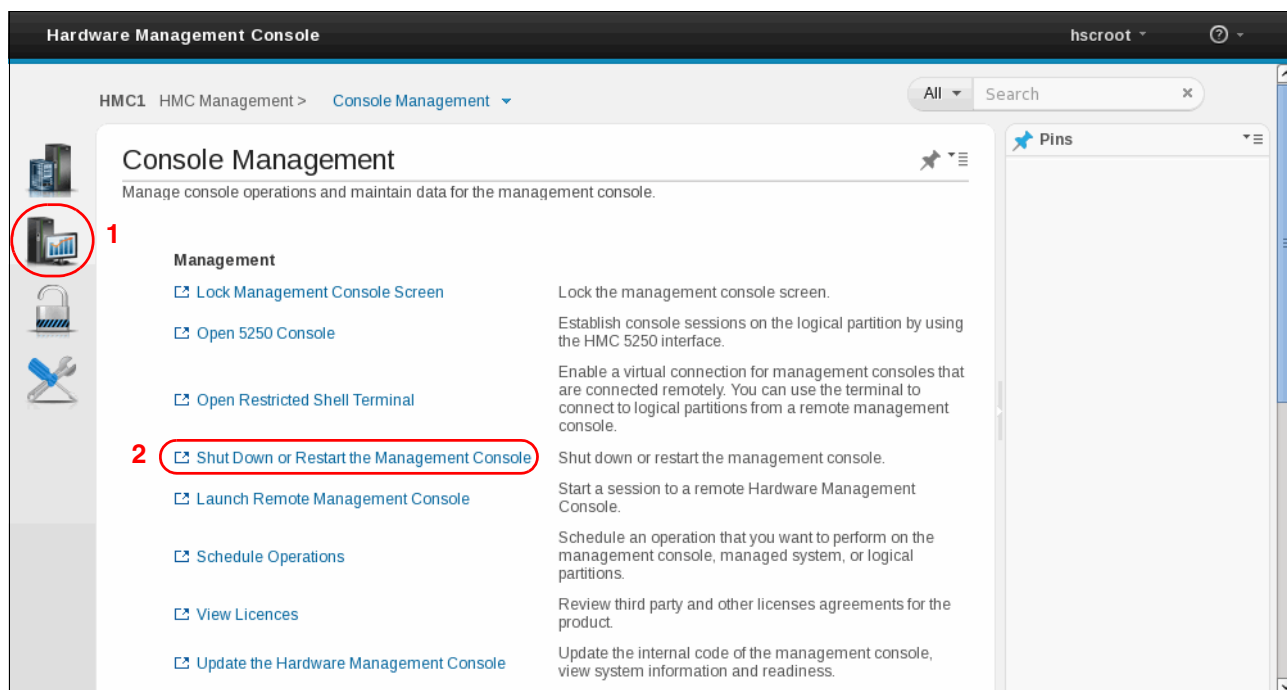

Figure 3-110 HMC Management panel
39. The first tasks are to restart the HMC and validate that it is properly running. Click the **HMC management** icon (1) in the left navigation pane (Figure 3-110), and click **Shut Down or Restart** (2).